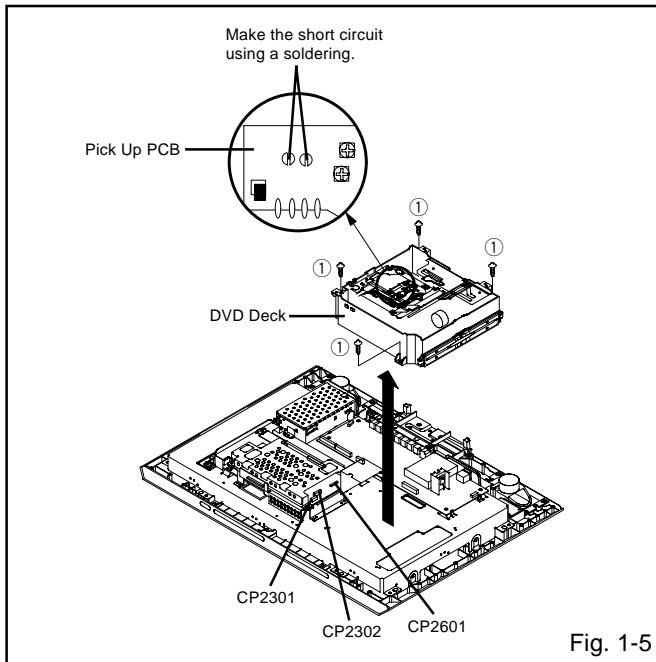

Fig. 1-5
1-5: DVD DECK (Refer to Fig. 1-5)
1. Make the short circuit on the position as shown **Fig. 1-5** using a soldering. If you remove the DVD Deck with no soldering, the Laser may be damaged.